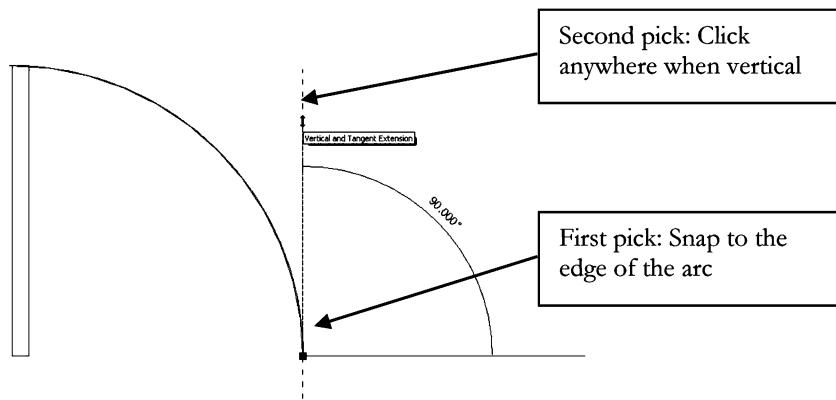

FIGURE 4-2.17 Creating axis of reflection
71. Pick the two points shown in **Figure 4-2.17**.